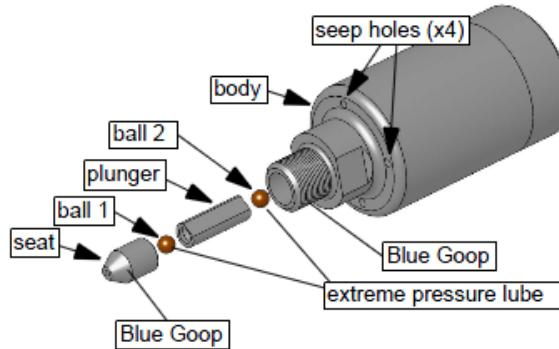

Figure 4-10
2. Remove and discard the two ceramic balls and seat (Figure 4-10).
7. Stack the parts together (refer to Figure 4-10) and screw the assembled body into the tee fitting by hand.